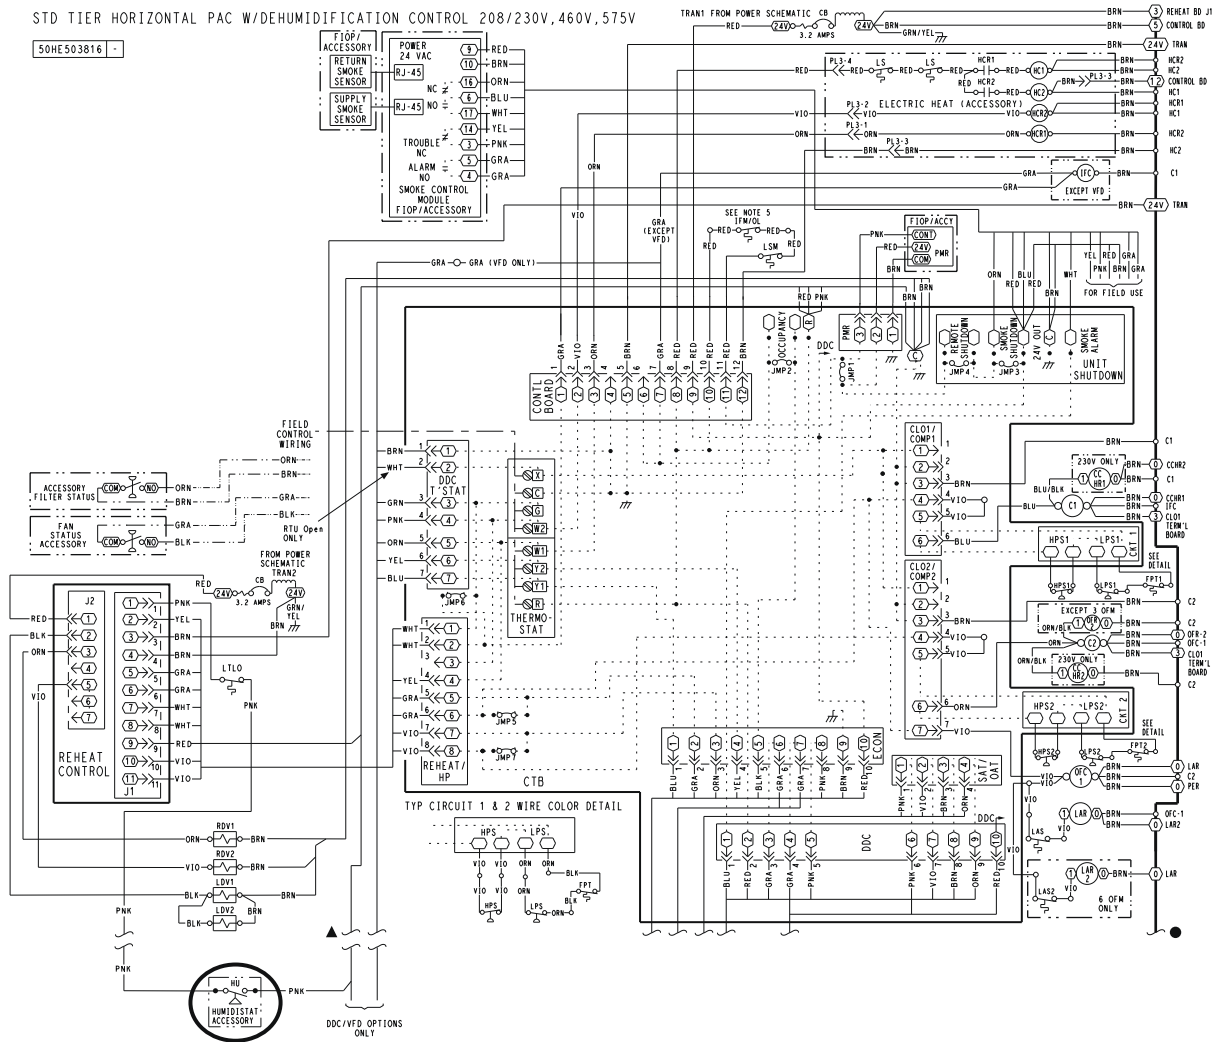

Fig. 35 — Typical Humidi-MiZer® Adaptive Dehumidification System Humidistat Wiring
3. Use wire nuts to connect humidistat cable to two PINK leads in the low-voltage wiring as shown in Fig. 35.